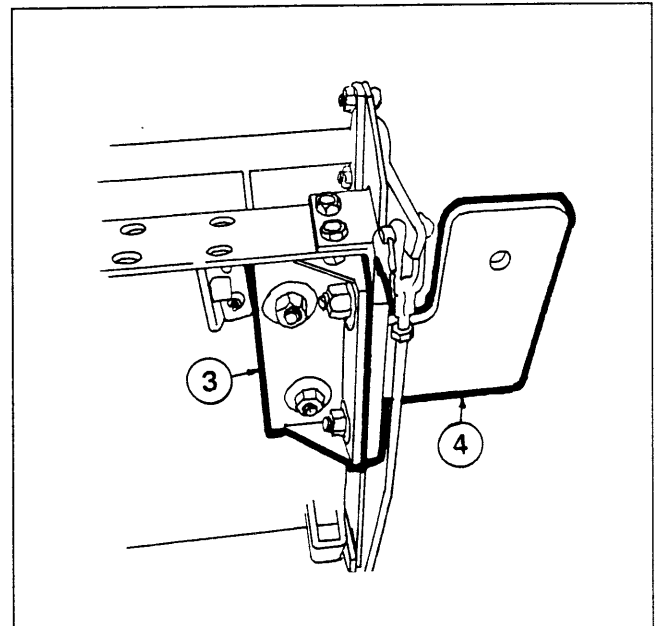

Figure 3
against the top, side corner. Position the support so the side hole pattern is in-line with the hole pattern from step 4, and the top, front hole is further from the side than the rear hole. (see Figure 3)
(4) and position it against the outside of the hole pattern from step 4. Bolt the bracket, through the platform, to the support (3) using the 1/2"x1 1/2" hex bolts, hex nuts, flatwashers, and lockwashers provided. REMEMBER to keep the head of the bolts to the outside. (see Figure 3)
7. Locate the two holes in the top of the support (3). Using the holes as guides, drill two 9/16"dia. holes through the platform. Bolt the support to the platform using the 1/2"x1" hex bolts, hex nuts, flatwashers, and lockwashers provided. REMEMBER to keep the head of the bolts to the top. (see Figure 3)